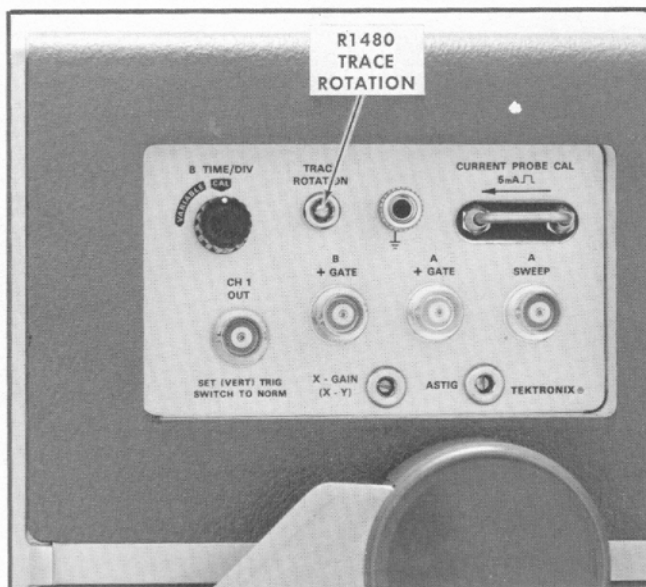

Fig. 6-10. Location of TRACE ROTATION adjustment (side panel).
f. ADJUST—TRACE ROTATION adjustment, R1480 (see Fig. 6-10), so the trace is parallel to the horizontal graticule lines.